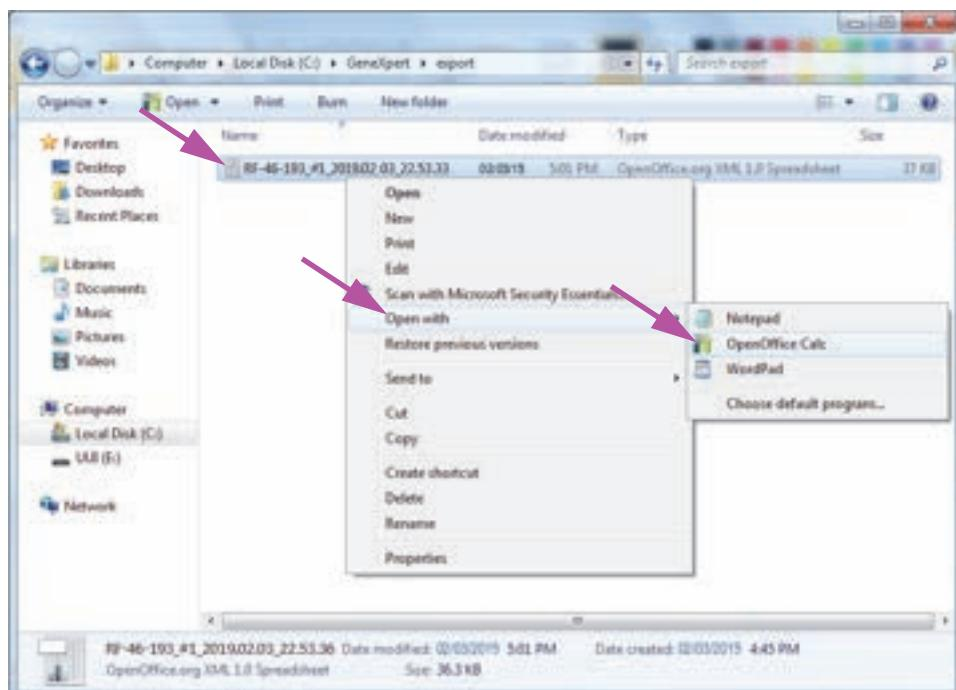

Figure 5-63. Opening a .csv File to Configure AOO (Example)
1. In the GeneXpert folder on your system, navigate to the **Export** folder. Right click on the .csv file you want to open. When the drop-down menu appears, click **Open with** and select **OpenOffice Calc**. See Figure 5-63.